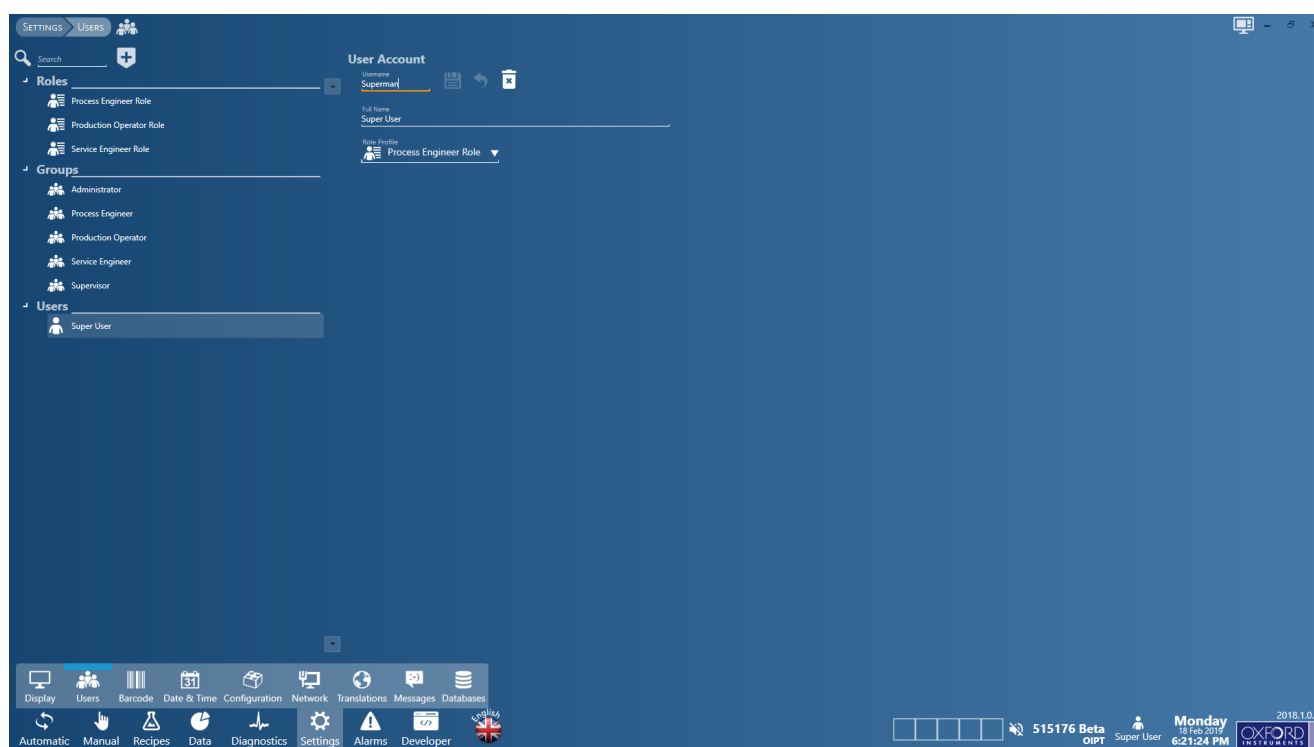

Figure 5-35 User Account
- 1 Click on the name of the user. The user's account is displayed, see Figure 5-35.